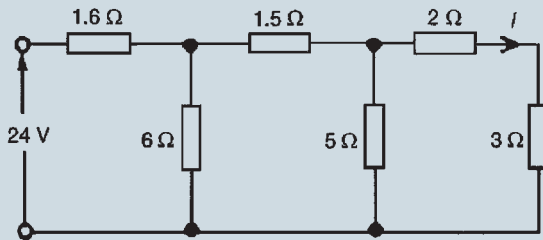

Figure 7.34
10. Find the current I in Fig. 7.34.